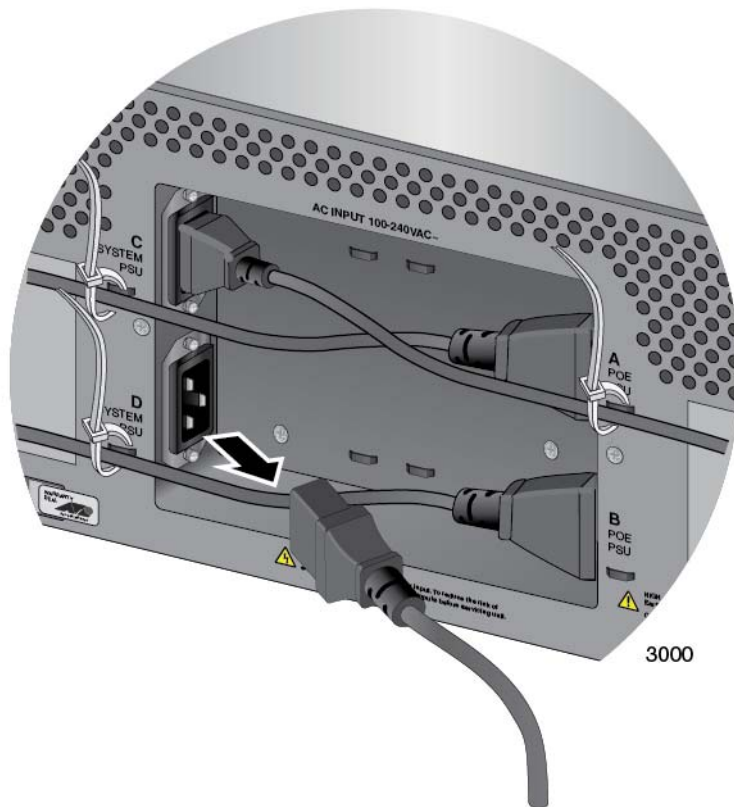

Figure 165. Disconnecting the AC Power Cord from the AC Socket on the Back Panel
1. Disconnect the AC power cord for the power supply from the AC power source and the corresponding AC socket on the back panel of the chassis. The figure in Figure 165 on page 267 shows the removal of the power cord from connector D, which corresponds to slot D on the front panel.